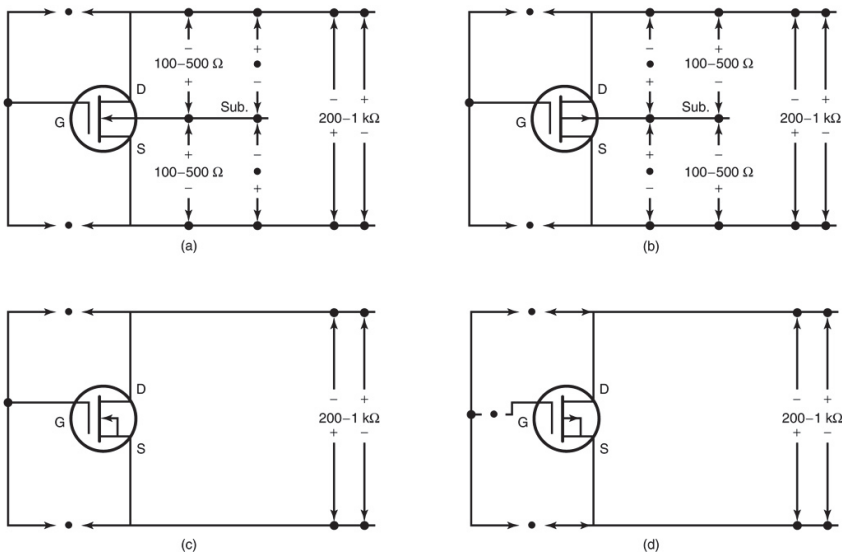

Figure 8.18 D-MOSFET resistance values.
D-MOSFET testing is very similar to the JFET. The gate of the D-MOSFET is insulated from the channel. It will show infinite resistance between each lead regardless of the polarity of the ohmmeter. This is identified by arrows attached to the gate (G). **Figure 8.18** shows some representative resistance values for good D-MOSFETs. Three-lead devices have the substrate and source internally connected. Four-lead devices have an independent substrate lead.